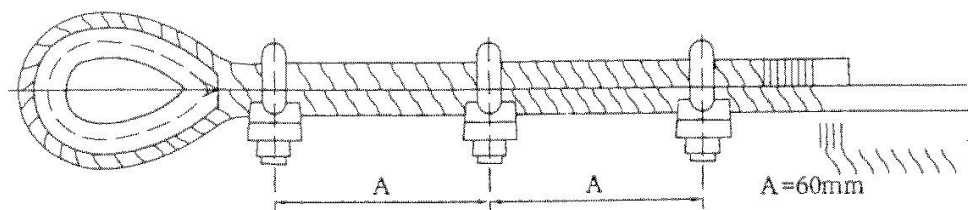

Figure 7: The Correct Clamping Method
4.4.2 The fixing method at the end of steel rope should be in accordance with the requirements of the standard GB5976-86 (see figure 7 as below). U bolt is fixed on the rear portion of steel ropes; clamp is fixed on the working section of steel ropes, which cannot be mixed up. The steel rope clamp cannot be alternately arranged on the steel rope, and the correct clamping method is as follows: